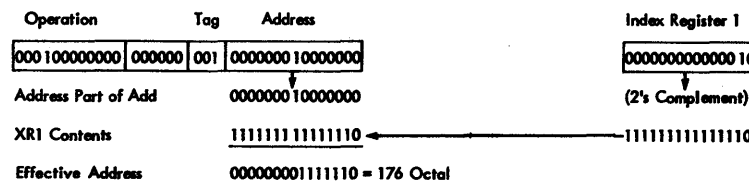
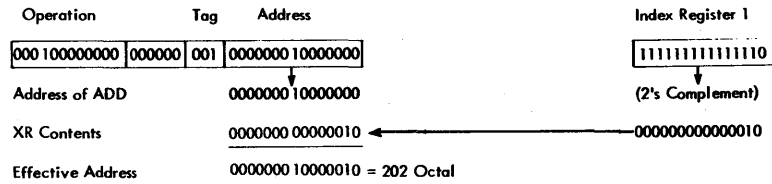

Figure 32. Index Register Arithmetic, Subtracting
Figure 33. Index Register Arithmetic, Adding
As an example of the arithmetic involved when index registers are used, assume that index register (XR) 1 contains the binary number 2 and that an ADD instruction with a tag of 1 and an address of 200_g is to be executed (Figure 32). When the ADD instruction is decoded, the tag bit in position 20 specifies XR1. The contents of XR1 are complemented (2's complement) and placed in the adders. Note that index register contents are always automatically (2's) complemented when taken to the adders. This feature results in subtracting the contents of the XR from the address part of the instruction. The address part of the ADD instruction is also placed in the adders; after adding the two numbers, the result (called the effective address) is used in execution of the ADD instruction instead of the actual address. In this case, the effective address is 176_g.
If the programmer wishes to increase the effective address, the number placed in the XR is inserted in 2's complement form by instruction. Thus, when the address of the instruction and XR contents are combined, the result is an additive process. Using the same facts (as in Figure 32) with the XR contents in 2's complement form, the effective address is now 202_g instead of 176_g (Figure 33.)